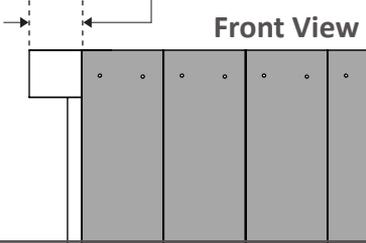

Fig. 30
5. After you turn a corner and start a new fence run, the edge of the first board in the new run should be flush with the face of the final board in the previous run. As shown in Fig. 30.